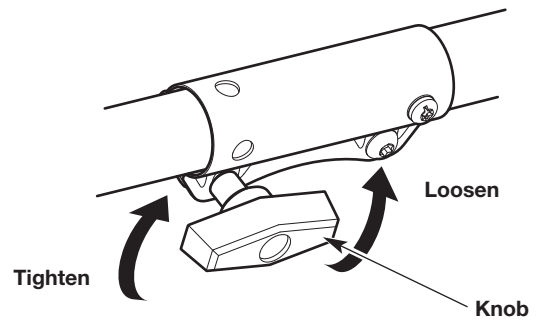

Fig. 11
3. Turn the knob counterclockwise to loosen the coupler (Fig. 11).
6. Turn the knob clockwise to tighten the coupler (Fig. 11).
2. Turn the knob counterclockwise to loosen the coupler (Fig. 11).